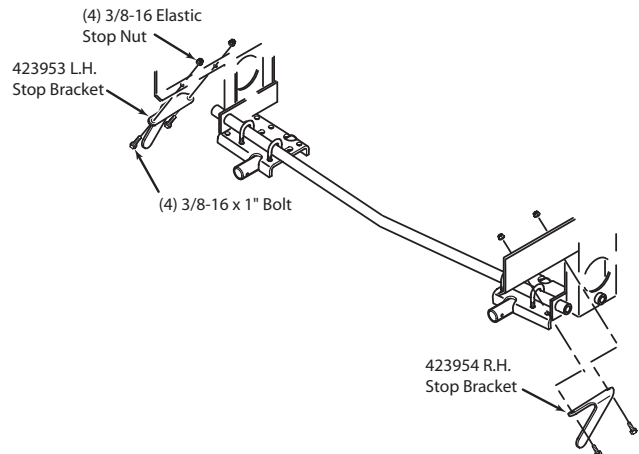

FIGURE 3-2
5. Install the left and right hand Striper Stop Brackets (p/n 423953 & p/n 423954) to the frame and secure with (4) 3/8-16 x 1" bolts and (4) elastic stop nuts. See Figure 3-2.